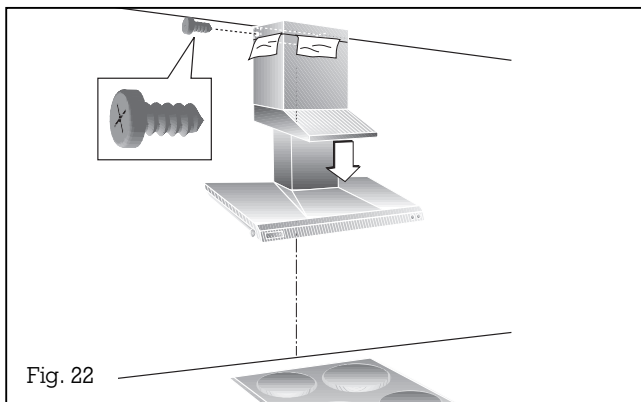

Fig. 22
- Pull the shoe down into its final position (Fig. 22).